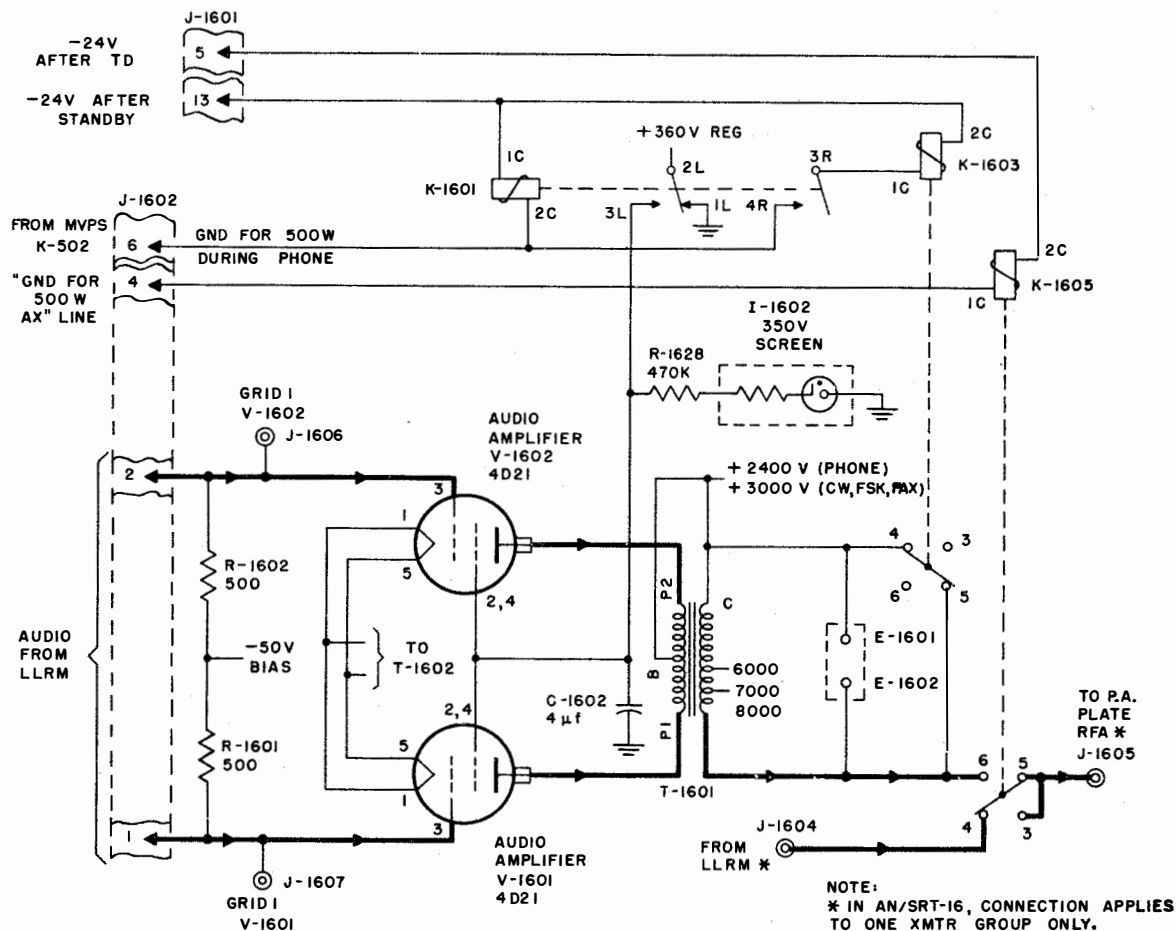

Figure 2-92. Audio Amplifiers V-1601 and V-1602, Simplified Schematic
b. AUDIO AMPLIFIERS V-1601 AND V-1602.— During 500-watt phone operation, the audio modulating signal from the LLRM, at the 6-watt level (see paragraph 7b(7)(c)), is fed to control grids of the push-pull amplifiers, V-1601 and V-1602 (figure 2-92) in the HLRM, equally but out of phase so that the push-pull action is amplified in the output modulation transformer, T-1601. Plate supply for the amplifier (+2,400 V during phone) is delivered to the center tap of the primary of T-1601. "Ground for 500 W during phone" is supplied from the MVPS (see paragraph 5d) to relay K-1601 and, if "-24 V after standby" is present, K-1601 energizes, supplying +360-volt screen supply through its contacts, 2L and 3L, to the screen grids